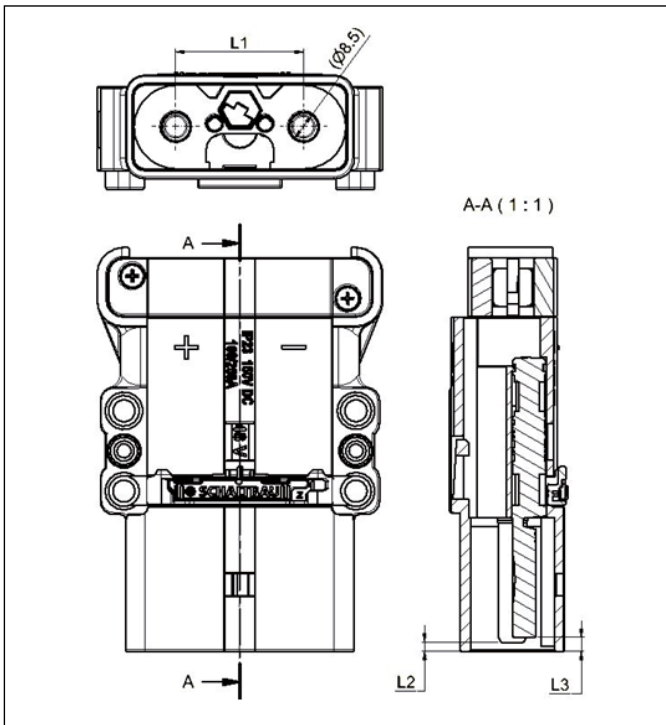
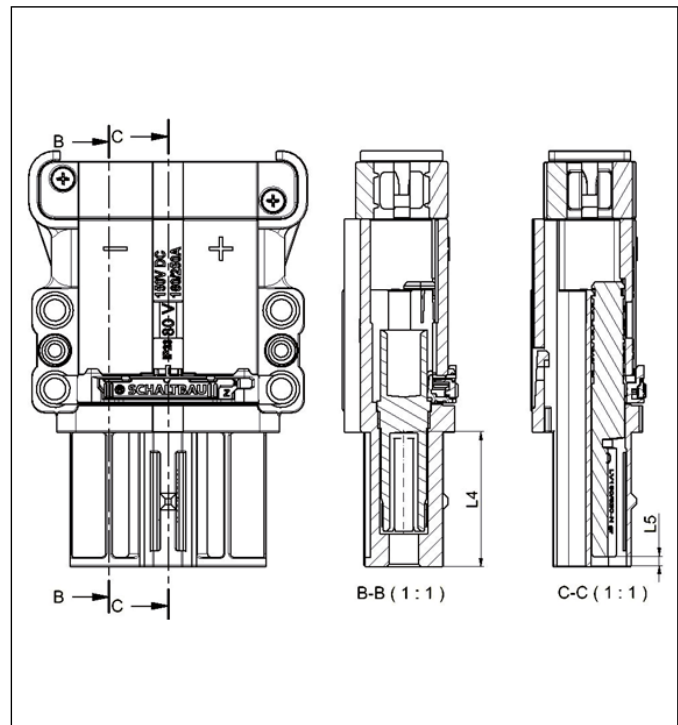

Fig. 15: Position of the pin contacts, keying plugs
Fig. 16: Position of the socket contacts, keying plugs
- ▶ Does the position of the pin and socket contacts in relation to the housing differ from the chart (refer to **Fig. 15** and **Fig. 16**)?